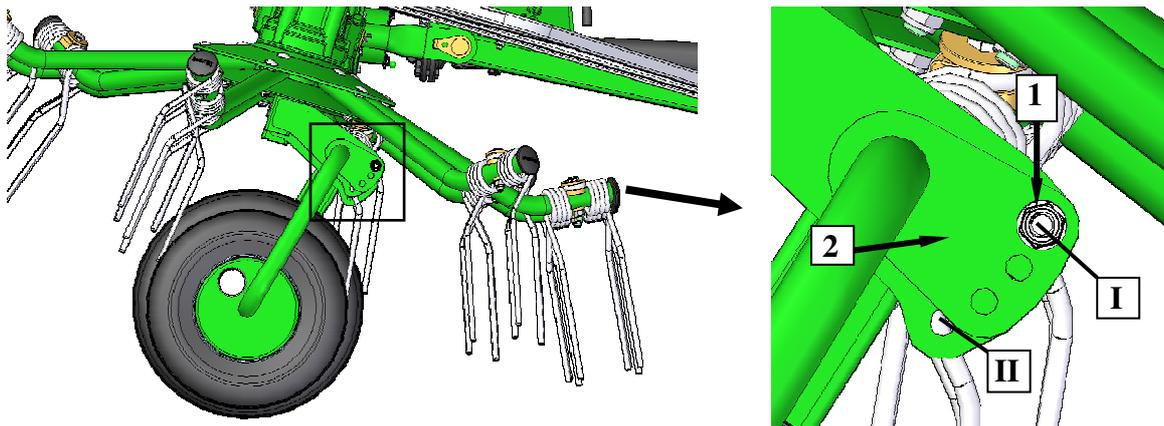

Fig. 20. Adjusting tedding angle with wheel position adjustment
- ❑ loosen and take out bolt (1) (**Fig. 20**) from a hole,
- ❑ set leg (2) in adequate position between range **I** and **II** and adjust it with previously unscrewed bolt.